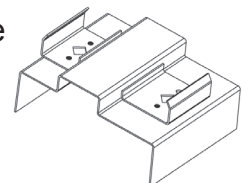

FIGURE 4
Position mullion bracket so scribe line centers in diamond window and the depressed tab rests firmly against the stop on the 1-3/4”(44) & 1-3/8”(35) rabbets. (Figure 4)